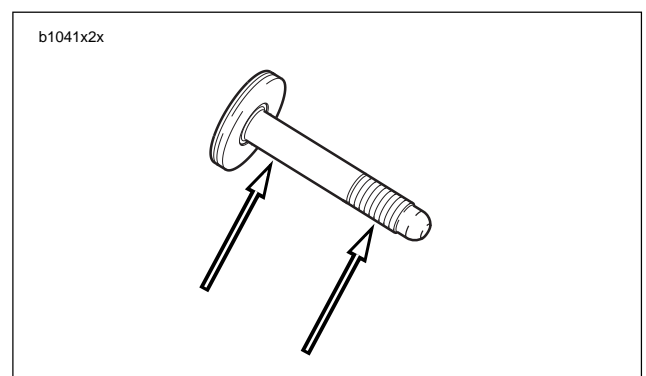

Figure 2-87. Lubrication Points on Front Isolator Bolt
8. See Figure 2-87. Lubricate front isolator bolt with ANTI-SEIZE and loosely install.